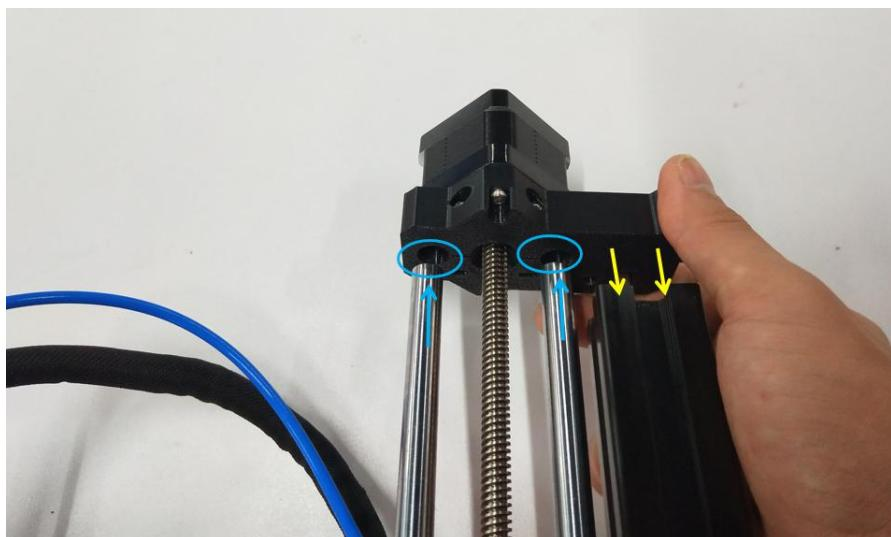

Figure 4.1.5
**Step 4-1-4:** As shown in Figure 4.1.5, install the Z-axis smooth rod into the two mounting holes on the MINI-z-top. The MINI-z-top must be knocked tightly against the Z-axis aluminum Profiles.